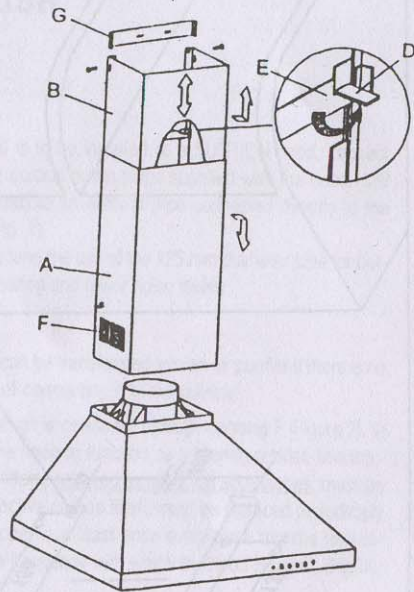
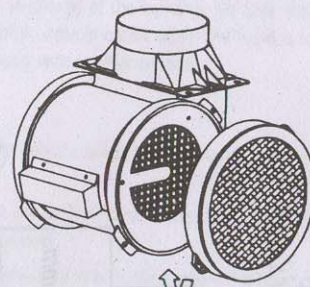

Fig. 2
Fig. 4
In this case, air is circulated through opening F (Figure 2). In order for the hood to function as a filtering purifier, two active carbon filters, supplied as separate accessories, must be used. The active carbon filters must be replaced periodically to work properly, at least once every three months (depending on the frequency with which the hood is used). (Fig. 4).
- Mark the wall at the location of support E (Figure 2) according to the heights and specifications shown on the attached jig.
- Place tube A with the extendible part B hanging on the inside, making sure that flange D is correctly lodged in the support E (Fig. 2).